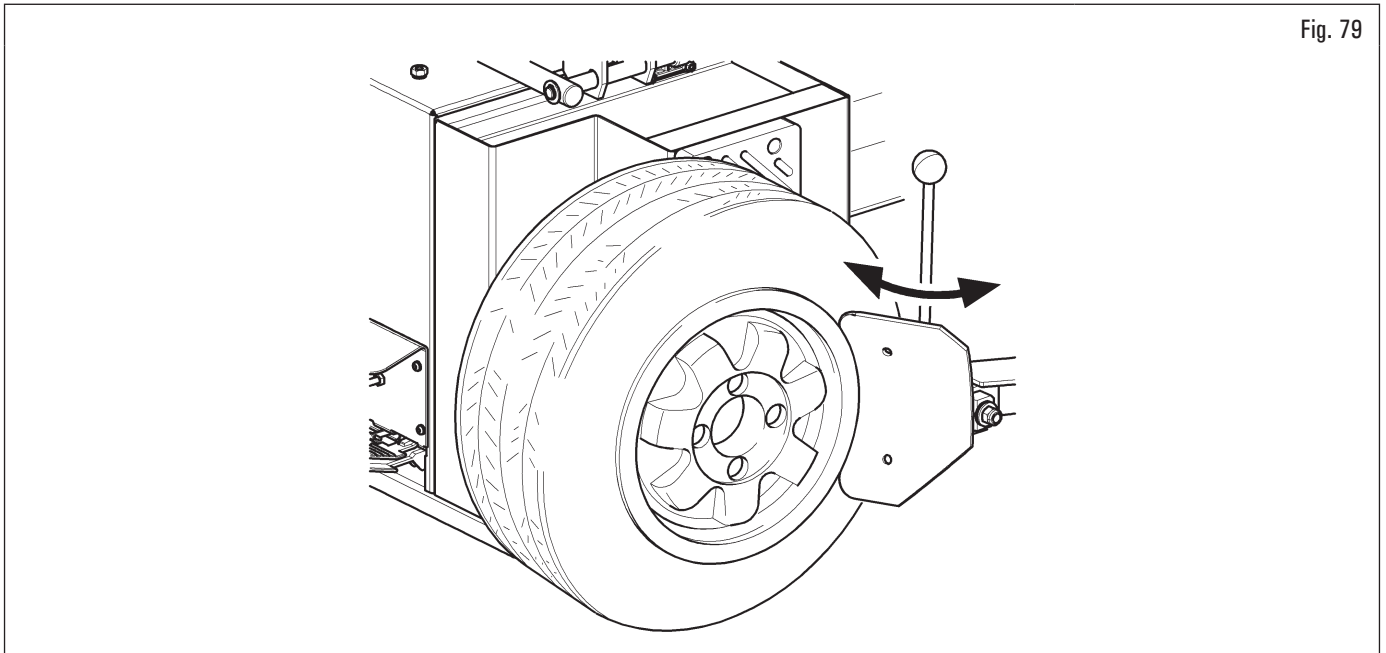

Fig. 79
1. position the wheel as indicated in Fig. 79 and move the bead breaker shovel towards the edge of the rim;